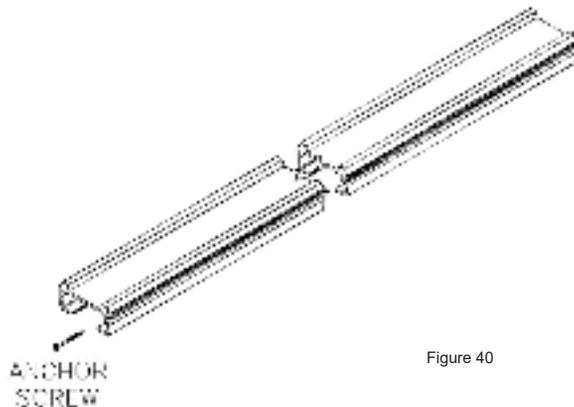

Figure 40
- f. Pull the seal flush with the end of the slat. Apply adhesive to the anchor screw. Install the anchor screw (Figure 40). Do not tighten the anchor screw too tightly. Allow the adhesive to dry before installing the slat.